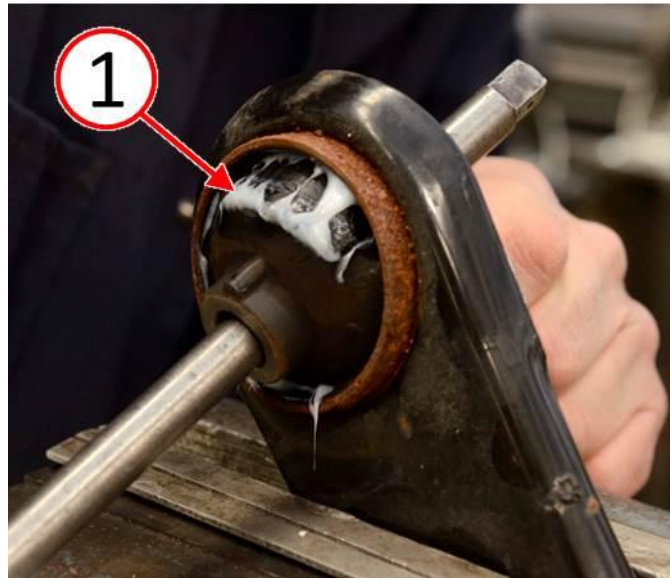

Fig. 4 Distribute Nye Lubricant
7. Move the bushing through range of motion in order to distribute Nye® lubricant (Fig. 4).